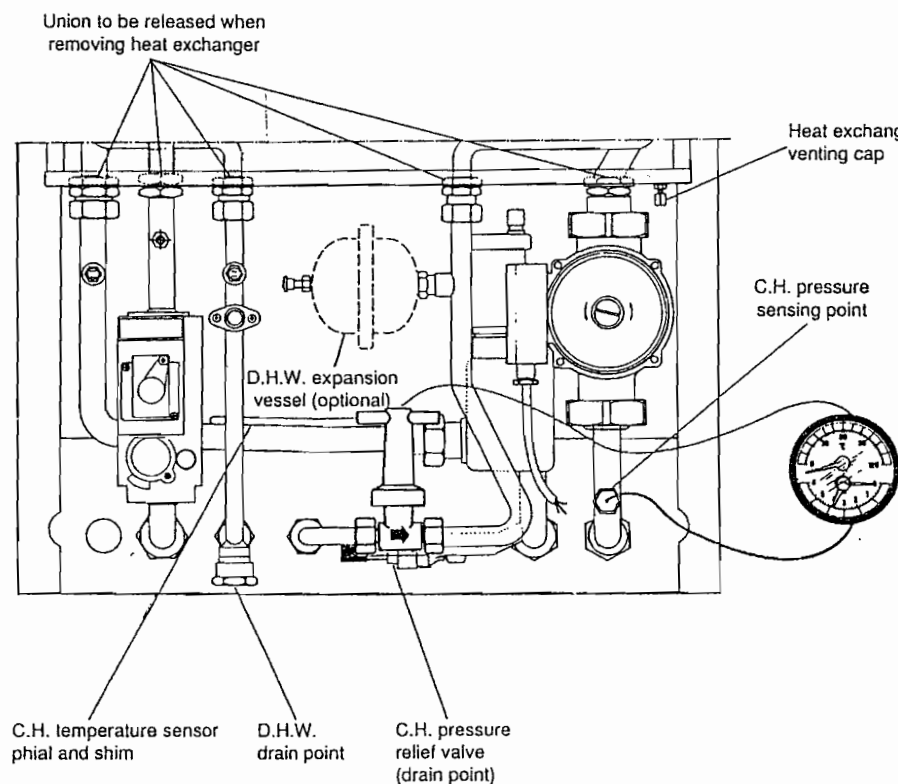

Fig. 37
- b) For replacement of parts where water connections are broken, it will be necessary to isolate and drain either or both the central heating or domestic hot water circuits of the boiler only. The cold water mains inlet is isolated at the inlet cock (fig. 1). The D.H.W. is drained via two caps (fig. 37).
The C.H. flow and return cocks are turned off at the isolation cocks (fig. 1). The C.H. is drained via the pressure relief valve (twist about 1/2 of a turn). Also the drain point located pipe below the pump (fig. 37).
- Refer to section 1, items a, b, c, d, f and g (drain D.H.W. only fig. 37).
- b) Remove the shim then the temperature sensing phial from its pocket (fig. 37).
- c) Unscrew the pressure sensor from its housing (fig. 37). (Access from below).
- b) Unscrew the expansion vessel (fig. 37). (Take care not to loose the sealing washer).